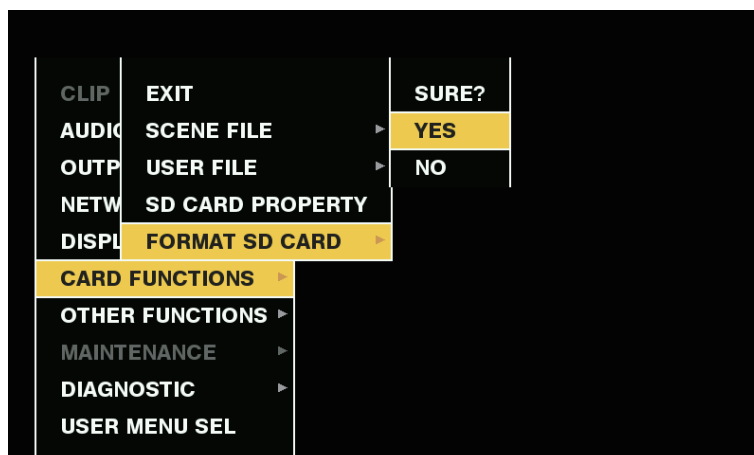

Fig. 1
**2 Select [YES] in the confirmation screen and press the control stick (or <SEL/PUSH SET> dial button). (Fig. 1)**